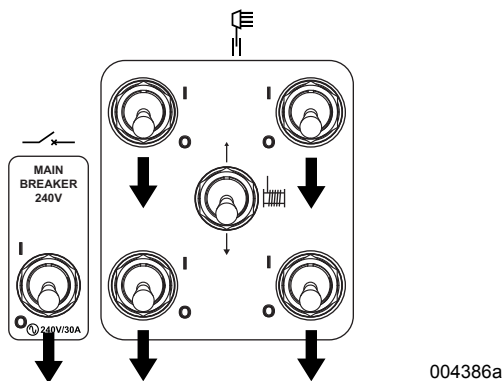

Figure 3-6. Circuit Breakers in OFF (O) Position
1. See **Figure 3-6**. Verify the main circuit breaker and individual circuit breakers for each of the lights are OFF (O).